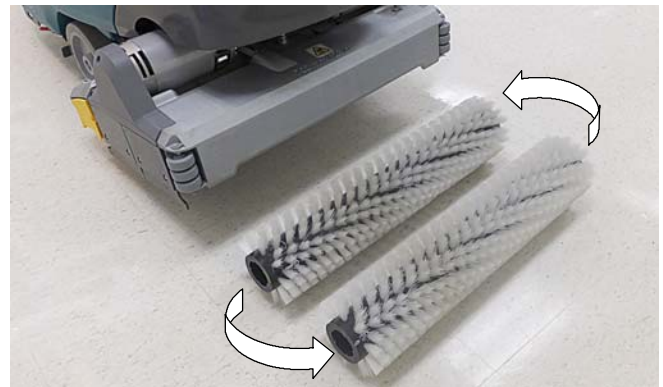

FIG. 66
2. Cylindrical brushes - Rotate brushes from front to rear (Figure 66). Replace brushes when they no longer clean effectively.